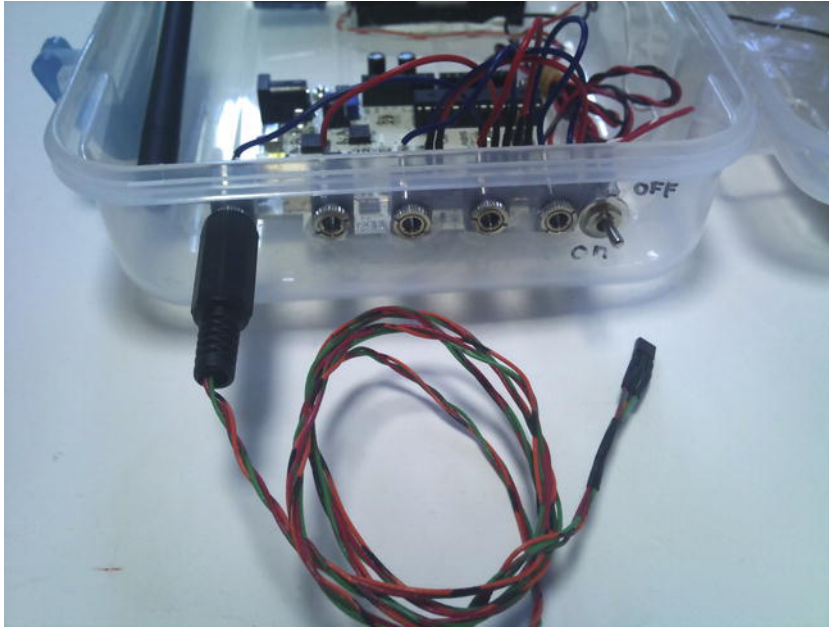

Figure 2-13. The SpiderTemps case with a probe inserted
7. Finally, solder a similar wire with machined pins to each signal output pin on the panel jack. You can now plug the power pins into power sockets, and attach each sensor input to the analog inputs of the Arduino, as shown in Figure 2-13.